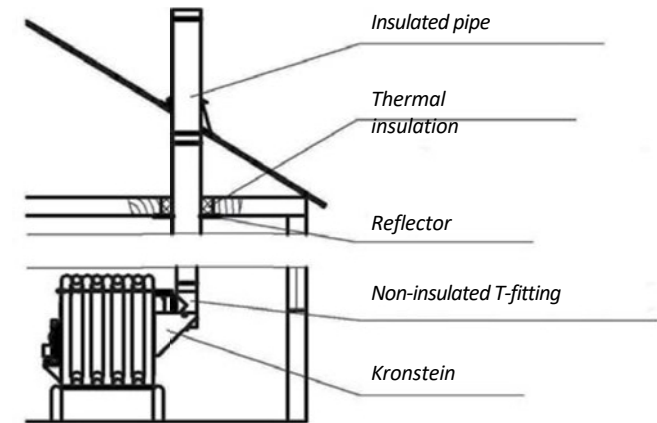

Figure 5. Installing the chimney through the ceiling
**NOTE!** When assembling non-insulated (stainless) metal chimney flues, the upper pipe is inserted into the lower pipe (Figure 5).